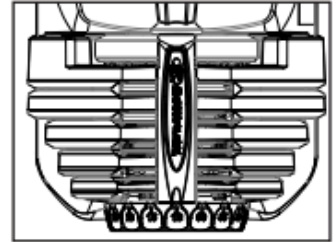

Figure 1 – Top view
1. With the dumbbell handle set in the dumbbell base, turn both adjustment knobs to the lowest number (Figure 1).